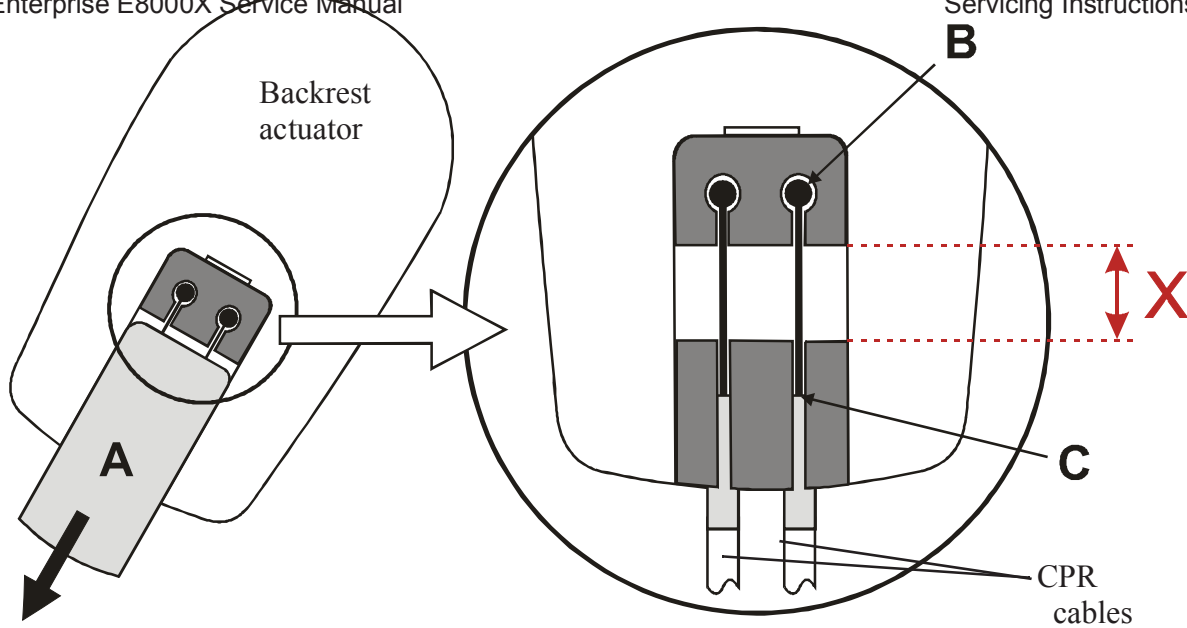
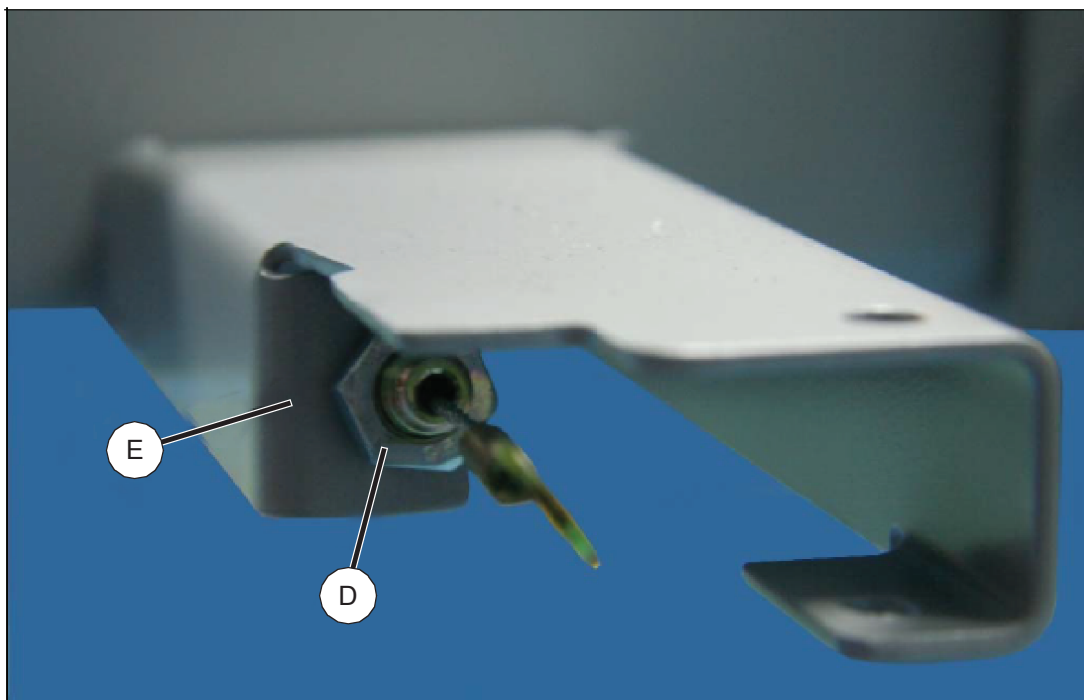

Figure 17: CPR cable fixing - backrest actuator
Figure 18: CPR Cable routing
- 18.1.4 Refer to Figure 17. Slide the cover (A) off the CPR cable housing on the side of the backrest actuator (Fig , Item 2). Lift the ball end of the cable (B) out of the housing and remove the CPR cable from the bed.
- 18.2.1 Refer to Figure 17. Position the ball end of the CPR cable (Fig 4, Item 14) in the circular recess of the cam lever (B). Locate the inner cable in the groove (C) with the outer cable held in place as shown.
- 18.2.2 Route the cable below the mattress platform assembly. Refer to Figure 18; secure the CPR cable to the sub-frame fabrication (Fig 4, Item 1) using one nut (D) either side of the fixing bracket (E).
- 18.2.5 Adjust the nuts (Fig 18, Item D) so that the distance "X" in Figure 17 is between 11.0 and 11.5mm; this should be measured using vernier or digital callipers. Refit the cover (Fig 17, Item A) on the backrest actuator.
- 18.2.6 Check the operation of both CPR release handles. Adjust the nuts (Fig 18, Item D) again if necessary.